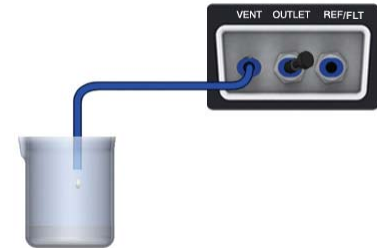

Figure 3-12 Vent
- ◆ When venting dust or contaminants are blown out through the vent port as shown in Figure 3-12.